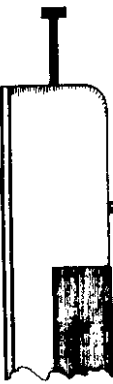

Fig 4—NEEDLE ANGLE
- B. Needle angle. This adjustment is a Phillips head screw located on the recording arm swivel post, just above the motor board. Clockwise rotation of this screw decreases the needle angle, while counterclockwise rotation increases it. The adjustment should be set so D. that the needle is at 90° to the recording disc surface. A convenient method of checking this is to set the needle on an uncut recording blank and set the adjustment so that the needle and its reflection form a straight line when viewed from the side. (See Figure 4.)